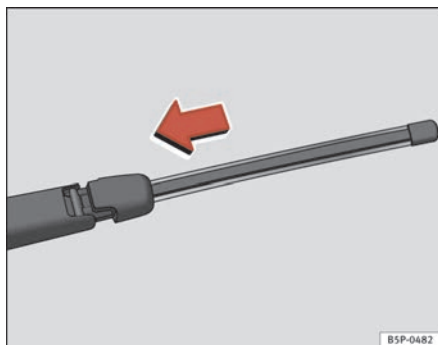

Fig. 165 Mount rear window wiper blade
- Place the blade as shown in the ⇒ page 227, fig. 165 and slide the adapter along until it fits into place.